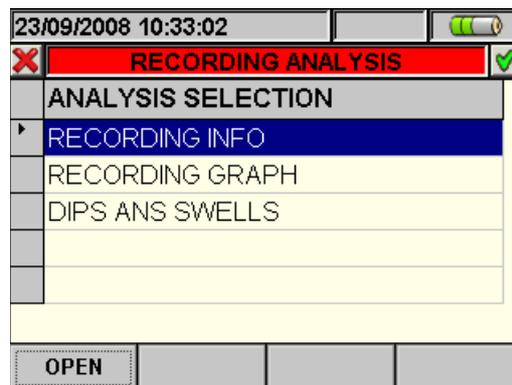

Fig. 154: Recording analysis (Reg-type data)
2. Press the **ESC** key (or the smart icon ) to exit the function and go back to the “Recording analysis” page (Fig. 154).
- The **ESC** key (or smart icon ) to exit the function and go back to the “Recording analysis” page (Fig. 154).
- The **ESC** key (or smart icon ) to exit the function and go back to the "Recording analysis" page (Fig. 154).